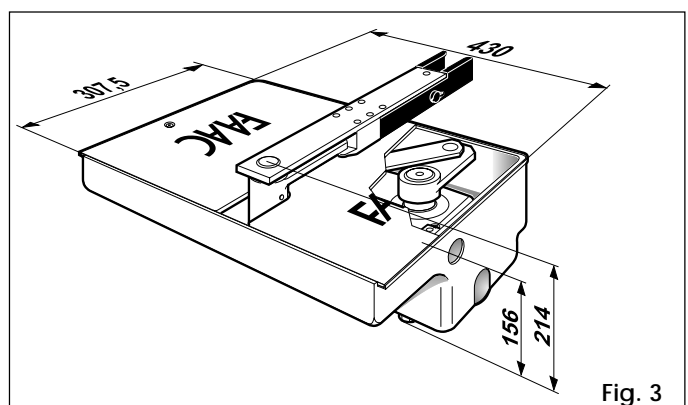

Fig. 3
3.2. INSTALLATION OF LEAF SUPPORTING FOUNDATION BOX (Fig. 3)